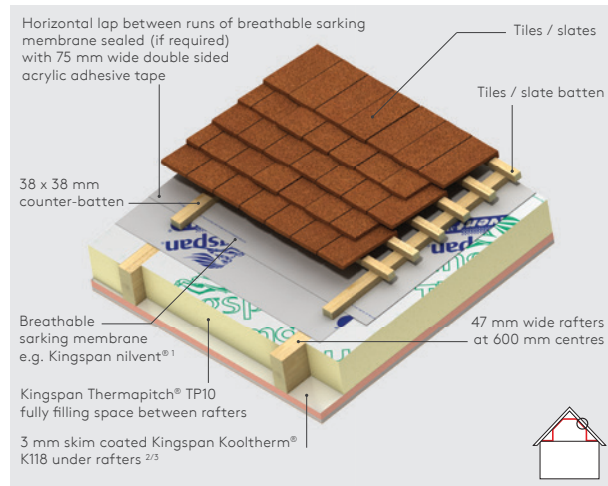

Figure 1a
NB When calculating U-values to BS / I.S. EN ISO 6946: 2017, the type of mechanical fixing used may change the thickness of insulation required. The effect of fixings for Kingspan Kooltherm® K118 in the U-value calculations for Figures 1a, 1b, 1c, 1d, 2a, 2b, 4a & 4c is insignificant as the insulation layer penetrated is not the main insulation layer. The U-value calculations for Figures 3a & 3b assume that over rafter layers of insulation are fixed using stainless steel fixings with a cross sectional area 7.90 mm², with 3.7 fasteners per m² (insulant thickness 0-40 mm), 6.2 per m² (insulant thickness 41-60 mm), 8.3 per m² (insulant thickness 61-80 mm) and 10.0 per m² (insulant thickness 81-100 mm). The U-value calculations for Figures 3a & 3b also assume that over rafter layers of insulation are fixed using stainless steel fixings with a cross sectional area 9.1 mm², with 11.1 fasteners per m² (insulant thickness 101-125 mm). Please contact the Kingspan Insulation Technical Service Department (see rear cover) for project calculations.
- 1 In Figures 1a & 3a the breathable sarking membrane can be placed over the counter-battens, draped to provide for drainage and overlain with tile / slate battens. This will yield a marginally better U-value but it will be more difficult to seal the breathable sarking membrane effectively.